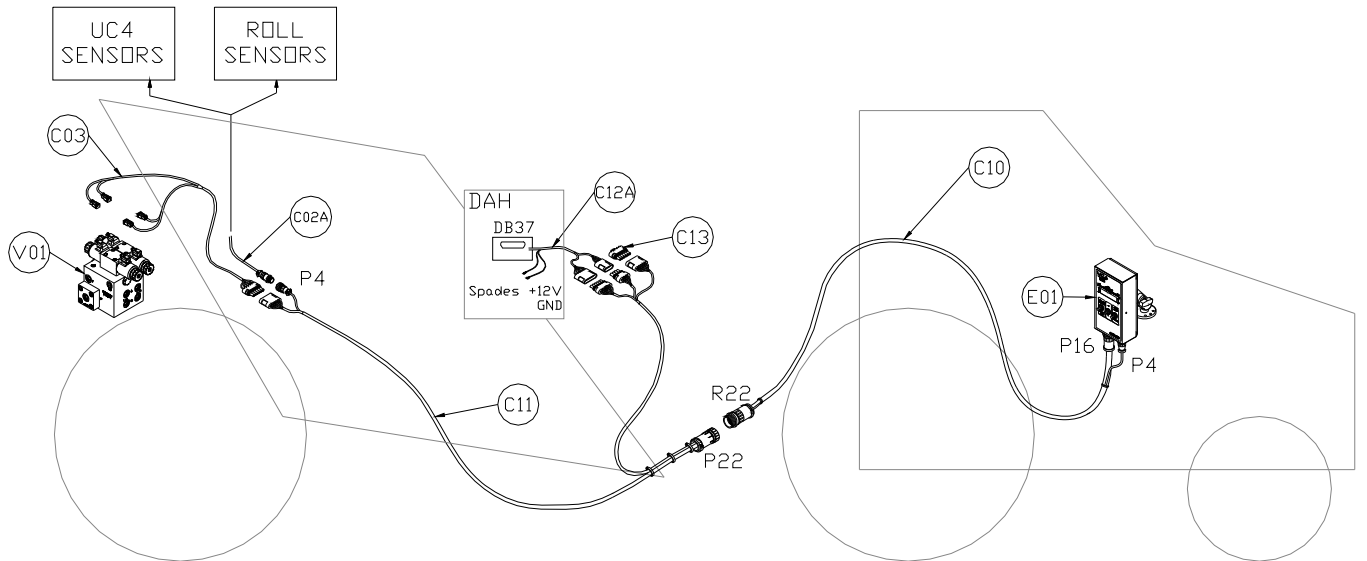

Figure 29: Cable Routing Overview (Using 44658-51)
2. Connect the 6-pin tower on the valve cable (**C03**) to the mating 6-pin shroud (**S6**) on C11 (**Figure 29**).